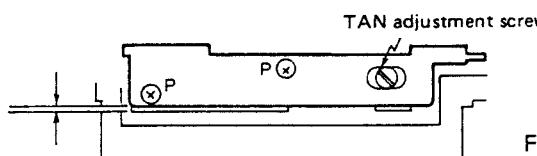

Fig. 31
**Note:** Be sure to attach the pickup so that it is parallel, by loosening the screw labeled "P" as shown in Fig. 31. This adjustment is the tangential direction incline adjustment shown on page 30 step 6. The adjustment is made by turning the TAN adjustment screw.